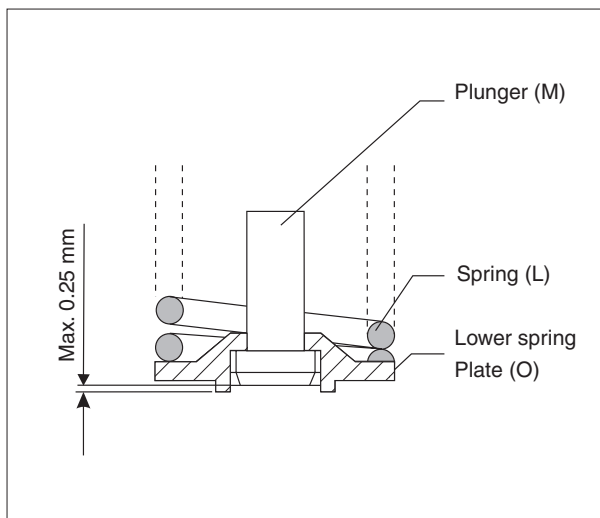

Fig 3 Clearance between Lower Spring Plate and Plunger
13. Insert plunger (M) and non-return valve (F) into the barrel (E) after wetting with clean gas oil. Plunger and non-return valve must slide into the barrel by their own weight.
14. The axial clearance between lower spring plate and plunger foot must not exceed 0.25 mm. The clearance between lower spring plate and plunger foot is 0.05 to 0.1 mm when new. See fig 3.